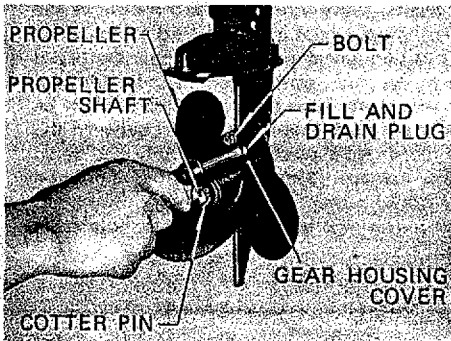

Figure 2
- a. The Gear Housing has been pre-lubricated at the factory; however, the grease level should be checked as follows using SAE 90 outboard motor grease. (See Figure 2).
- (1) Prior to initial operation.
- (2) After first four (4) hours of use.
- (3) Recheck after every fifty (50) hours running time.
- (4) Replace with new lubricant at the end of your outboard motor season. This is important, as it removes any water from the gear housing and prevents possible corrosion to internal parts.